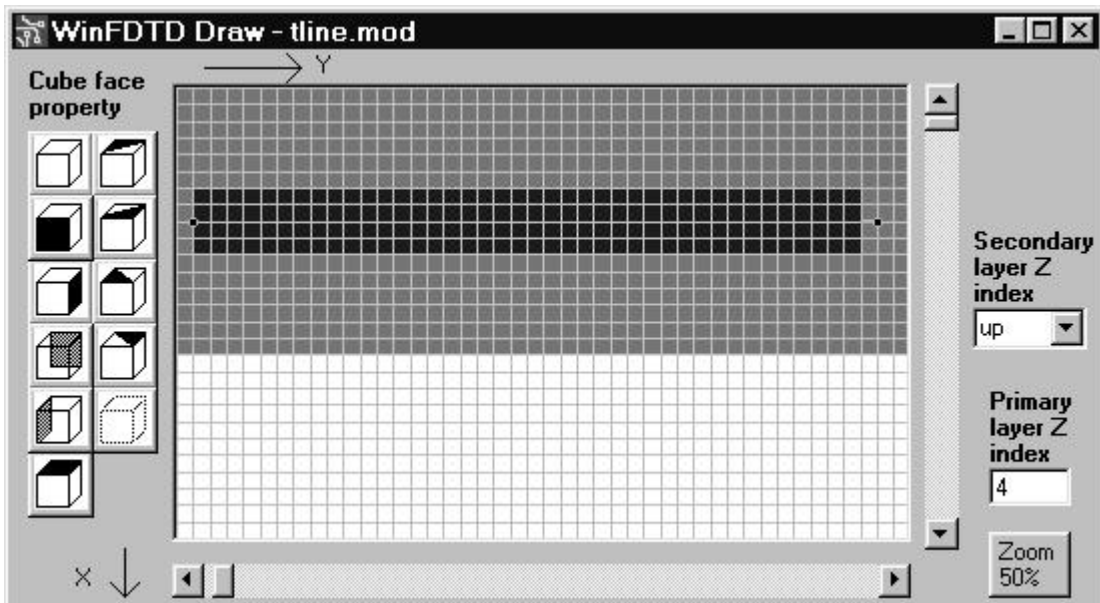

Figure A8.16 – The completed layout as seen on Layer 4, top view.
- The final layout of the model, as viewed from the top to Layer 4 is shown in Figure A8.16.